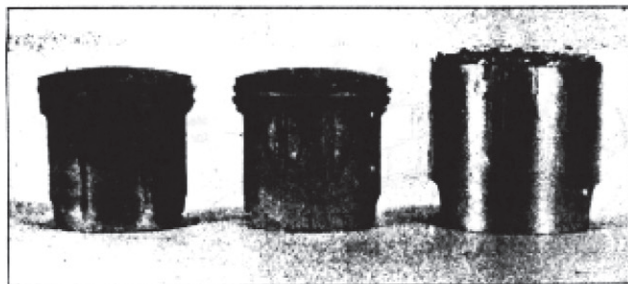

Figure 3—Examples of Heat and Lubrication Failures.
**Teardown And Inspection:** On close inspection of the removed piston the reason for the failure should become apparent. [See photo in Figure 3.] Each piston shown here is a heat-related failure. The center piston shows best the scoring caused by excessive heat. Heat seizures work from the piston top and progress downward. Lubrication failures will extend from the bottom of the piston skirt upward not favoring the top ring area of greatest exhaust heat. The area of least clearance between the piston and wall should be at the bottom or skirt of the piston, thus the area most likely to show the effects of poor lubrication. Seeing this happen to an engine has a way of convincing people that Brand X for \$1.50 a quart at the auto parts store is no bargain. "You can pay me now or pay me later."
The piston on the right in Figure 3 is a graphic display of a massive heat seizure. The single ring on this Sachs piston was fragmented and then welded to the piston top in large chunks at the exhaust port. This was a personal creation when a 220 main jet was mistaken for a 320. Total operating time—3 minutes. Impressive!